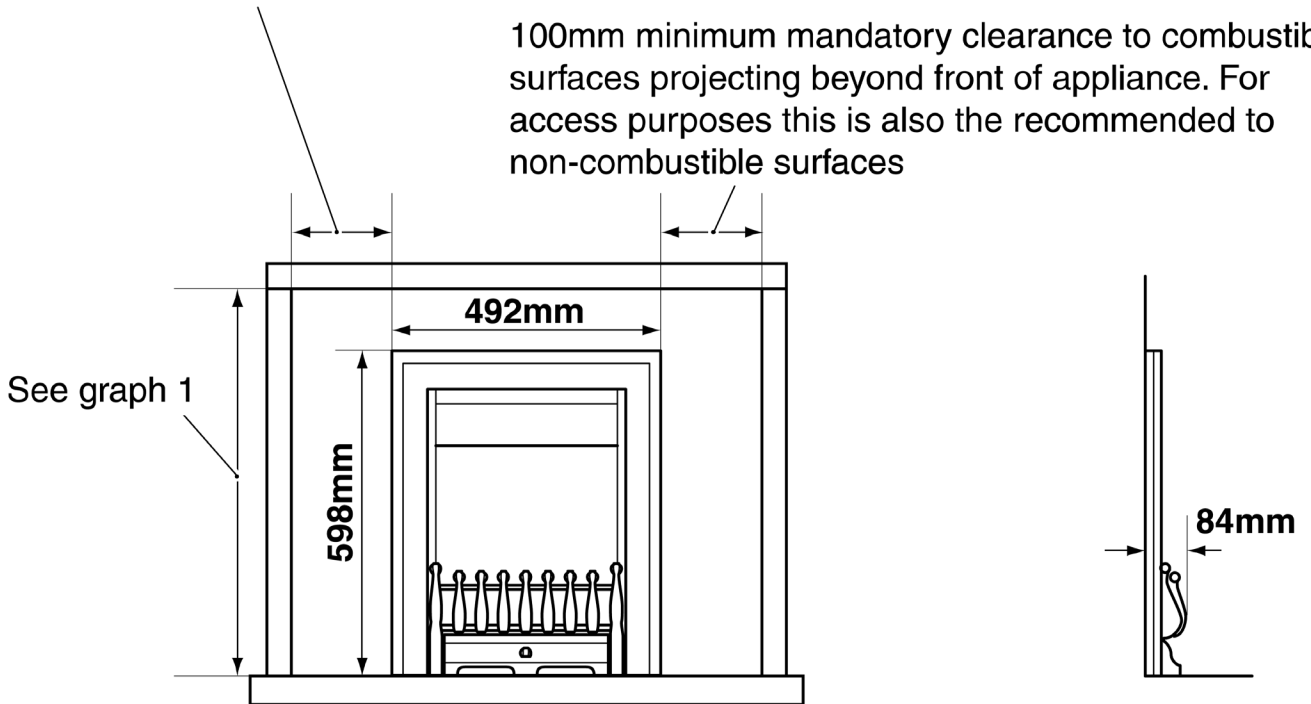

Figure 1. Appliance Dimensions
- Provide a minimum clearance of 100mm from the outside of the fire case to any corner wall or other combustible surface that projects beyond the front of the appliance. On the right hand side this is also the minimum recommended clearance to non-combustible surfaces to allow for access. On the left hand side a 10mm access clearance from a non-combustible surface is recommended (See figure 1). Please bear this in mind if ever you are altering the room.